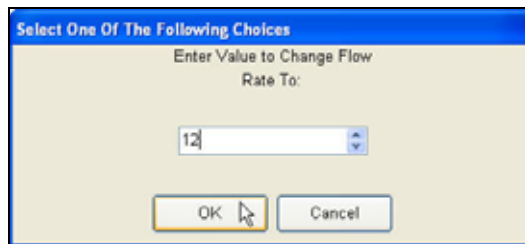

Figure 7.2.9
- Enter a new flow rate. Click **OK** (Figure 7.2.9).